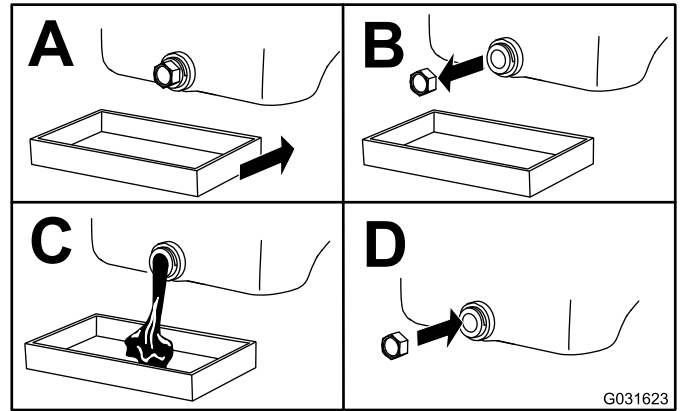

Figure 23
4. Change the engine oil as shown in Figure 23.